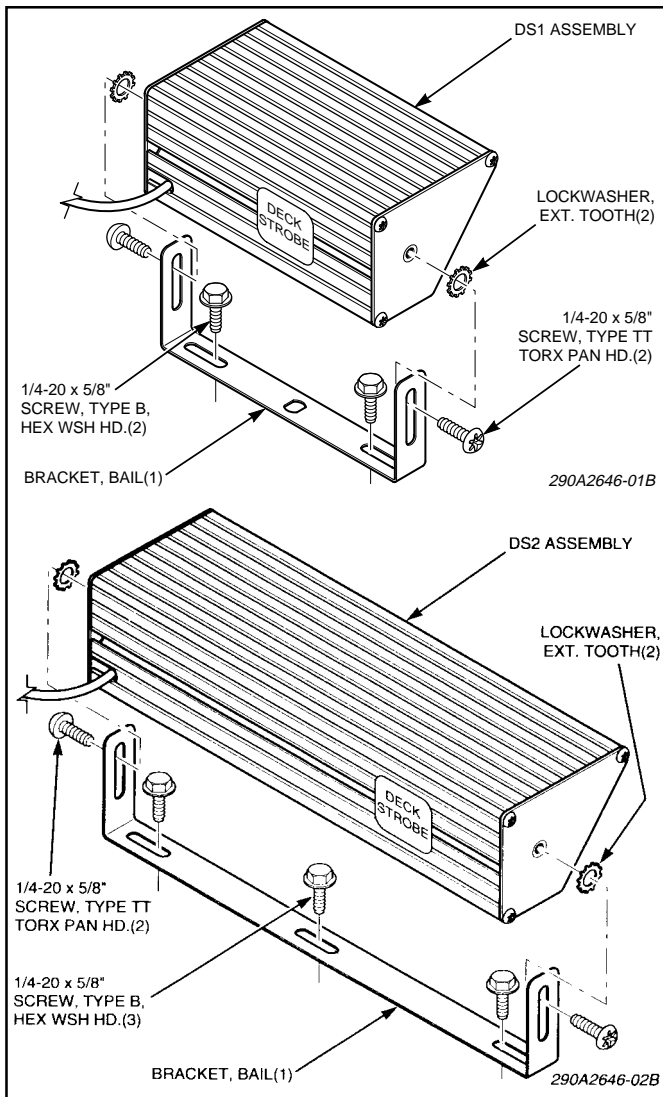
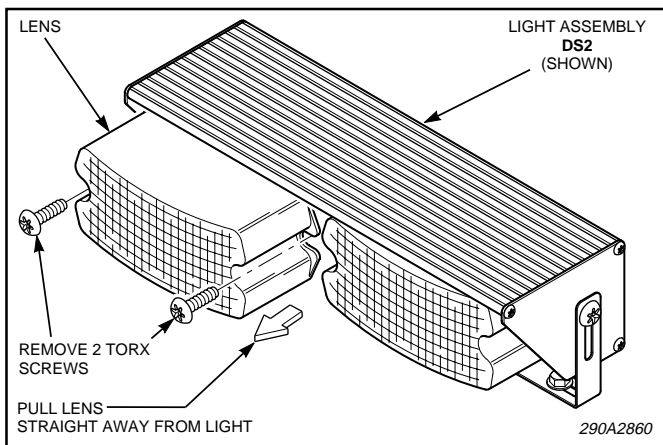

Figure 1.
Figure 2.
- d. Secure the light assembly to the mounting bracket(s) using the 1/4" x 5/8" pan head Taptite screws and lockwashers as shown in figure 1.
- a. See figure 1. Use the mounting bracket(s) as a template and scribe mounting hole position marks on the mounting surface.
- d. Secure the light assembly to the mounting bracket(s) using the 1/4" x 1/2" hex head Taptite screws and lockwashers as shown in figure 1.
b. Remove and retain the two screws and lockwashers which secure the light assembly to the mounting bracket (see figure 1). Remove and retain the two screws which secure the lens (see figure 2),